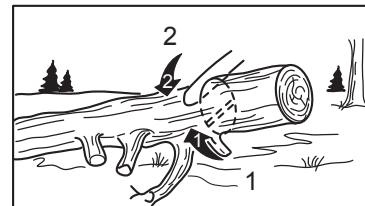

FIG. 5
2. Trunk supported only on one end: First cut from below for 1/3 of the trunk and then from the top down until the previous cut has been reached. (Fig 5).